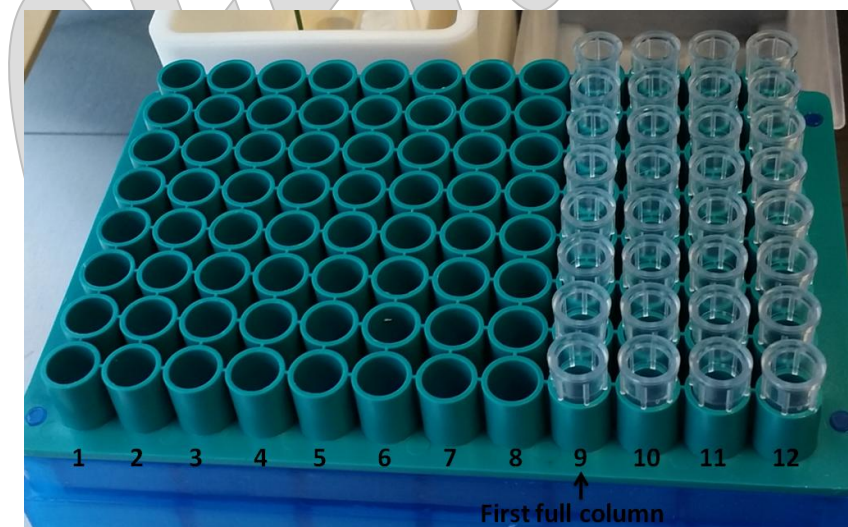
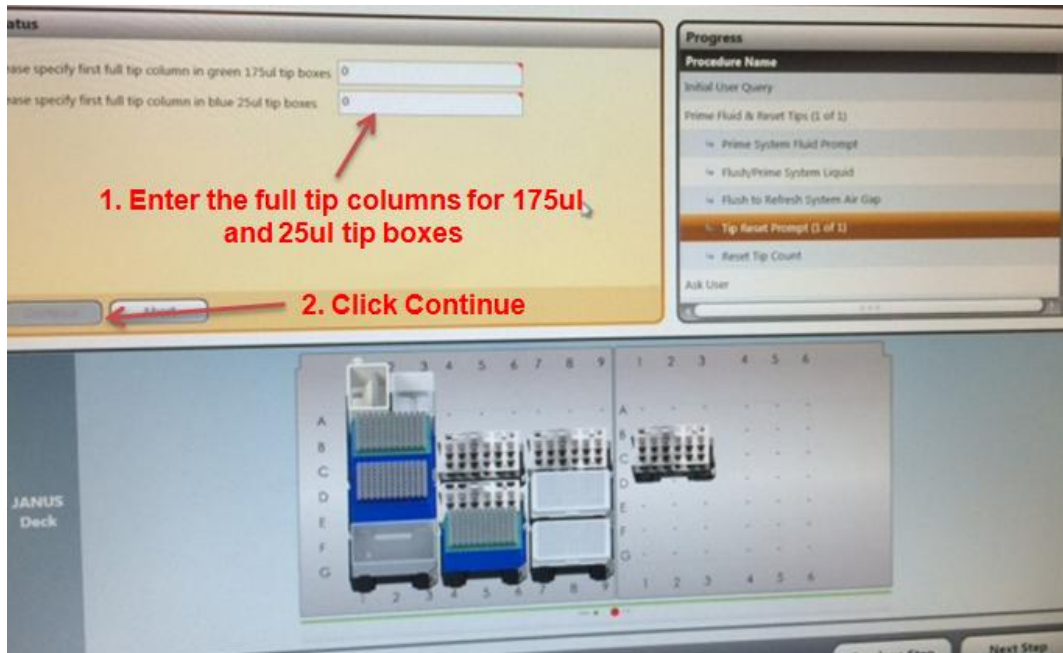

Figure 8A: Pipette tip box orientation
Figure 8B: Pipette tip box setup
- 3.18. Once the lines have been flushed, the user will be prompted to enter the column number containing a full column (8) of pipette tips in the green 175 μ L tip box. See Figure 8A for an example of the pipette tip box orientation on the deck. See Figure 8B for an image of the software screen.
- 3.19. The orientation of the tips within the tip box is important, more specifically the horizontal (column) orientation of the tips. If using a full tip box, enter 1 in Figure 8B. This indicates that the entire tip box is full of tips. If using a partial tip box, position the box so all empty columns are to the left. The tip box shown in Figure 8A has column 9 as the first full tip column. If there are a few tips mixing in sporadic spots, re-position them so no partial columns are present. **ALL COLUMNS must be complete with 8 tips as shown above, AS should all columns following the column number entered.**